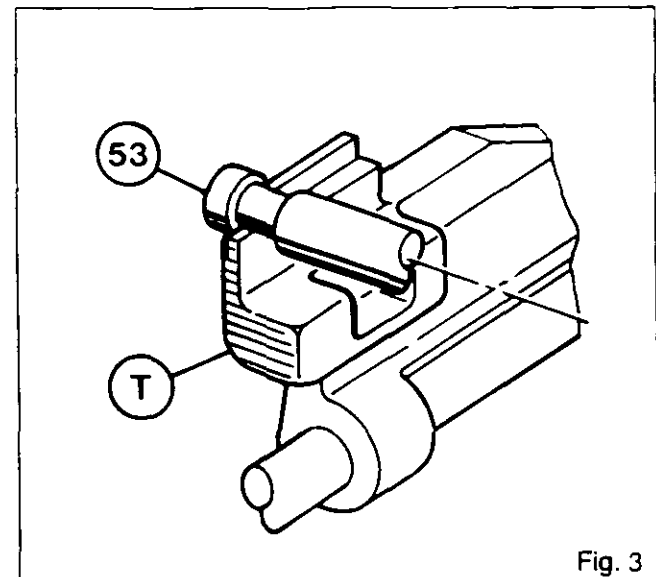

Fig. 3
- In the B range, fork (T) is in the position shown in Fig. 3 and prevents an accidental change to the A range.